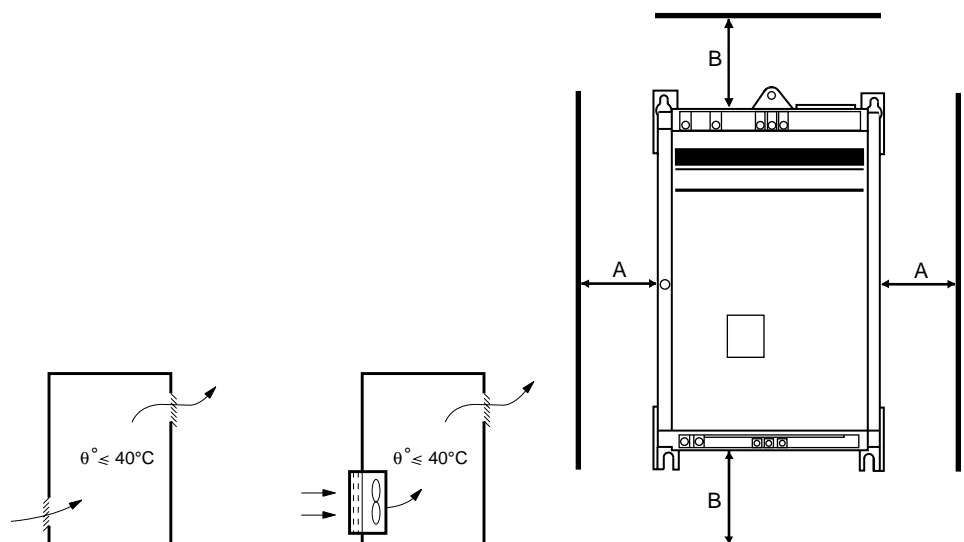

Figure 2-5 Ventilation and Clearances for 1 to 40 hp Controllers
- Leave sufficient space around the controller: $A \geq 2$ in (50 mm), $B \geq 4$ in (100 mm), see Figure 2-5.
- Leave sufficient space around the controller: A \geq 2 in (50 mm), B \geq 4 in (100 mm), see Figure 2-5.